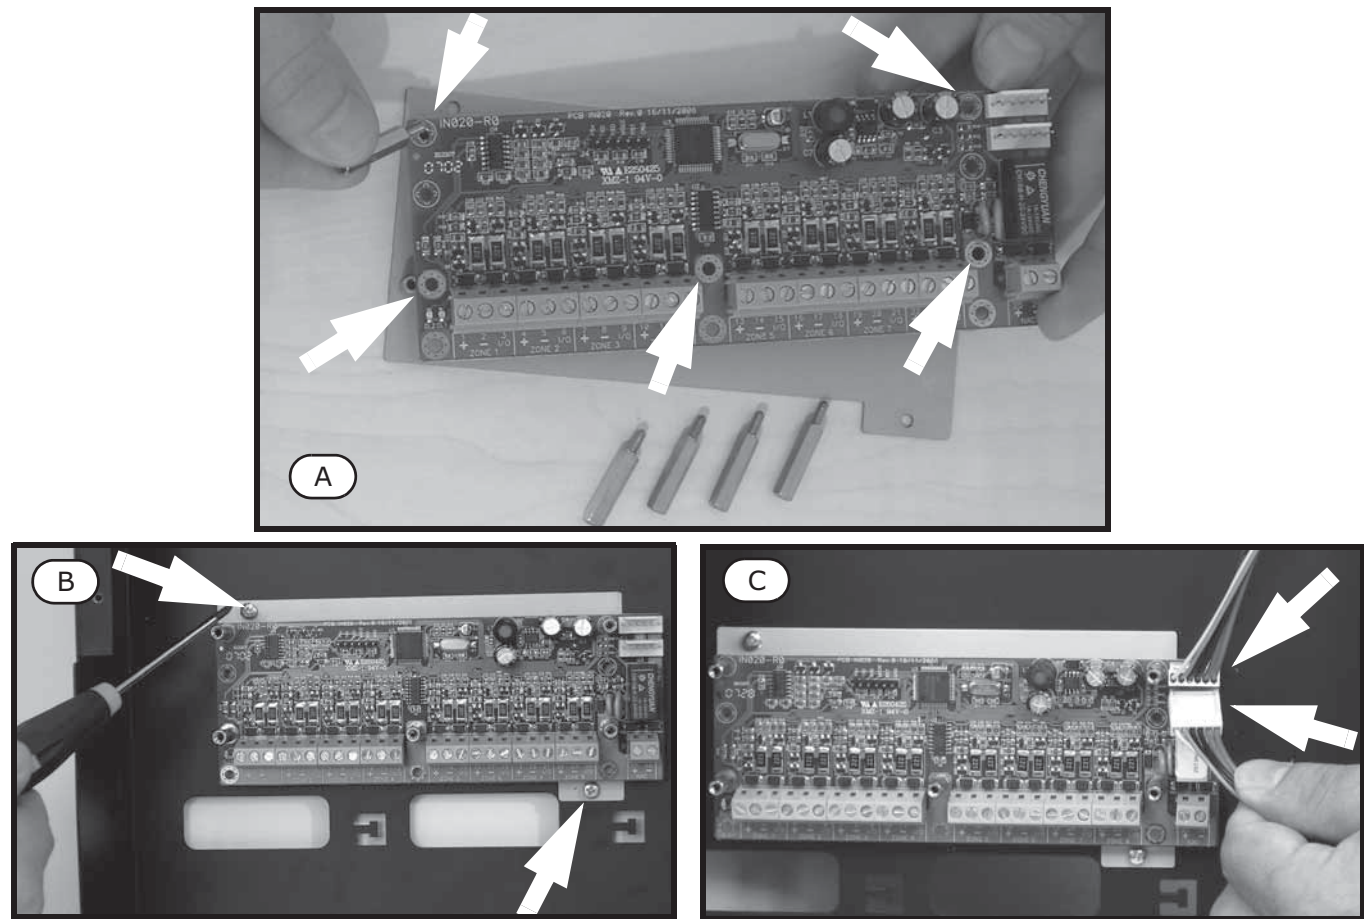

Figure 9 - Mounting the expansion module - 1
3. Locate the zone expansion board on the metal plate, using the metal spacers if you are installing two boards (*Figure 9 - [A]*). Be careful to use the mounting holes indicated in the photograph.
4. Position the plate with the expansion board in its location on the backbox (*Figure 9 - [B]*).
5. Plug the expansion board, using the wires to the motherboard and to the next expansion board (*Figure 9 - [C]*).